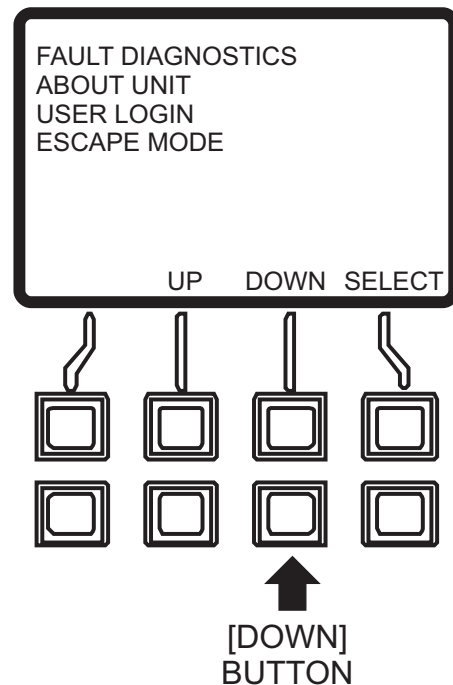

Figure 89. Main Menu (Down Button)
4. Press the **[DOWN]** button (Figure 89) to scroll to the Escape Mode item.